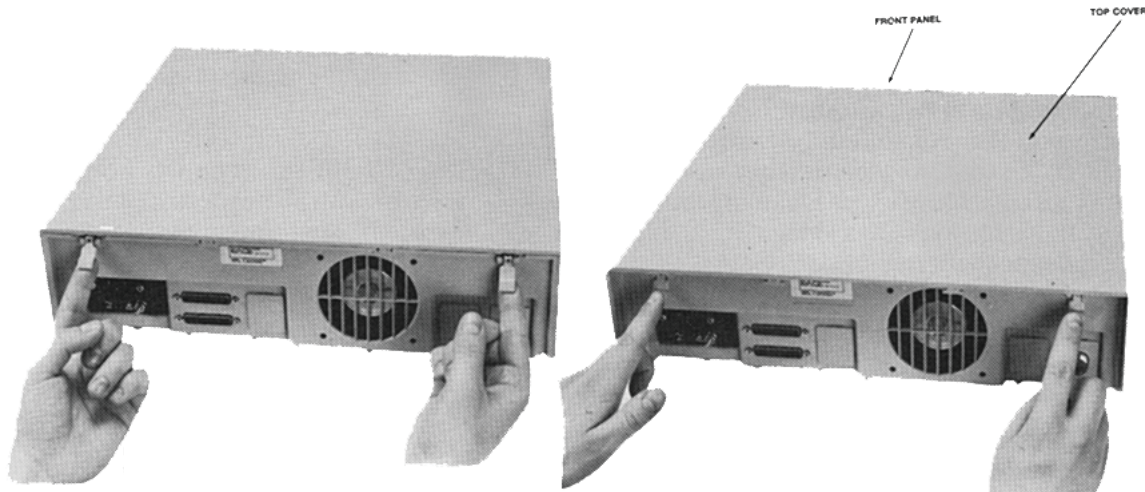

Figure 13. Removing the Top Cover
**NOTE:** The rear view of the Console shown in Figure 13 might be of an earlier model.